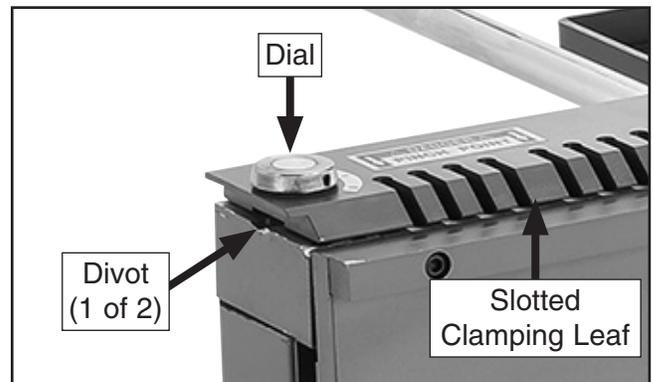

Figure 19. Clamping leaf dial shafts aligned with divots.
3. Place slotted clamping leaf on top of workpiece, aligning dial shafts at each end with divots on machine (see **Figure 19**).
4. Adjust each dial indicator to 0 (see **Figure 19**).